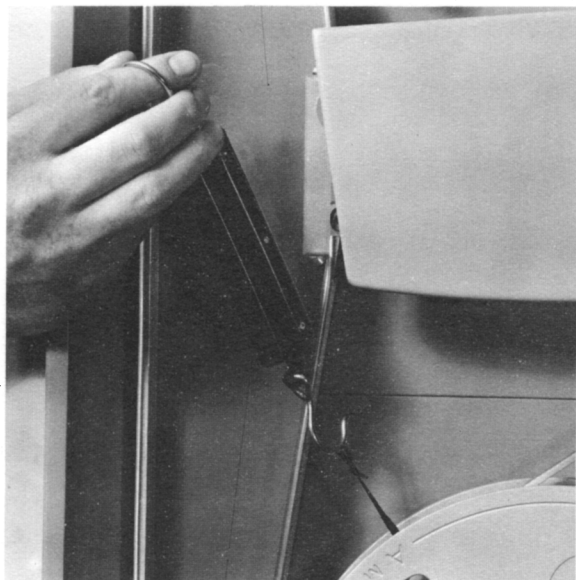

Figure 7-11
Step 1: Attach the spring scale to the follower arm at the point where the tape packer shoe is pivoted to the arm. With a tape pack diameter of 10 inches, a force of 4-1/2 oz. plus or minus 1/2 oz. should be required to lift the shoe from the pack (Figure 7-11).